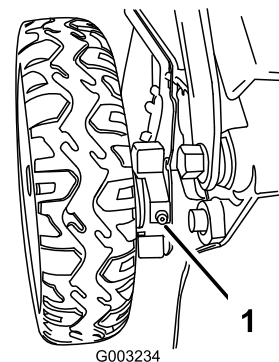

Figure 42
1. Wipe the grease fittings just inside the rear wheels with a clean rag (Figure 42).